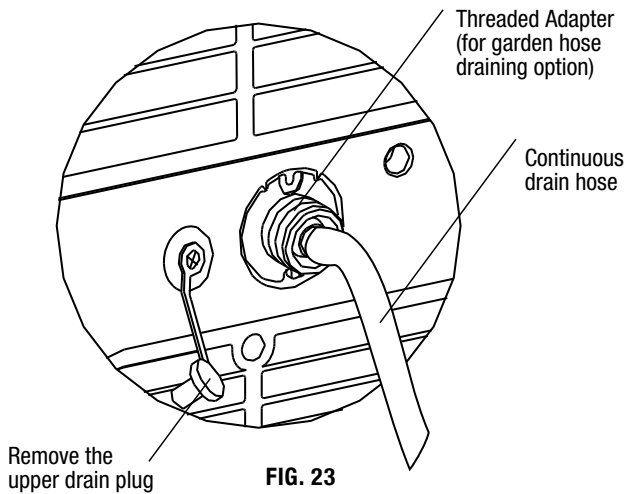
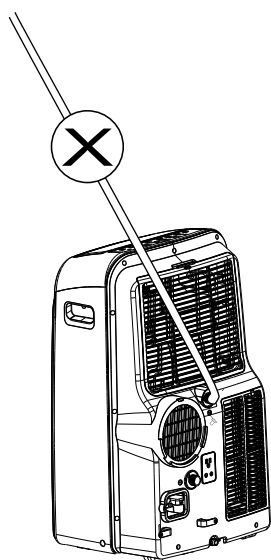
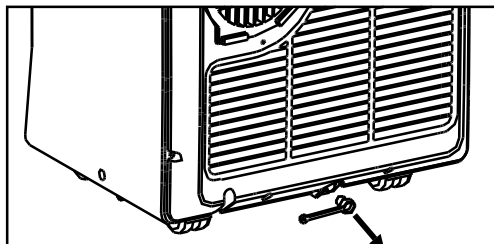

FIG. 23
FIG. 25
FIG. 26
During dehumidifying mode, remove the upper drain plug from the back of the unit and attach 3/4" vinyl tube included with the unit (5/8" outer diameter). If a longer hose is needed, a vinyl tube (3/4" inner diameter 5/8" outer diameter) can be purchased at a local hardware store or a standard garden hose (not included) may be attached to the threaded adapter and used for continuous draining. (A hose length of no greater than 6 ft is recommended.) Place the open end of the hose directly over the drain area in your floor. See Fig. 23 & 24.
NOTE: Make sure the hose is secure so there are no leaks. Direct the hose toward a floor drain, making sure that there are no kinks that will stop the water flow. Place the end of the hose into a drain and make sure the end of the hose is directed downward to let the water flow smoothly. (See Fig. 23.) Never allow the hose to be directed upward at any point. (Fig. 25.)
When the water level of the bottom tray reaches a predetermined level, the unit beeps 8 times and the digital display area shows "P1". At this time the air conditioning/dehumidification process will immediately stop. However, the fan motor will continue to operate. (This is normal.) Carefully move the unit to a drain location, remove the bottom drain plug and drain the water (Fig. 26). You can carefully tilt the unit back slightly to assist with drainage. Restart the machine until the "P1" symbol disappears. If the P1 symbol will not clear after following the above instructions and waiting a few minutes after restarting the machine, call Consumer Services.
- Remove the rubber plug on the back of the unit and attach a hose to drain outlet. Place the open end of the hose directly over the drain area in your basement floor or over a shallow pan (if no floor drain is available.) (See Fig. 23 & 24.) Remove the plug from the bottom drain outlet; the water in the bottom tray will drain out. (See Fig. 26.) Carefully tilt unit back slightly to assist with water drainage from bottom drain outlet.